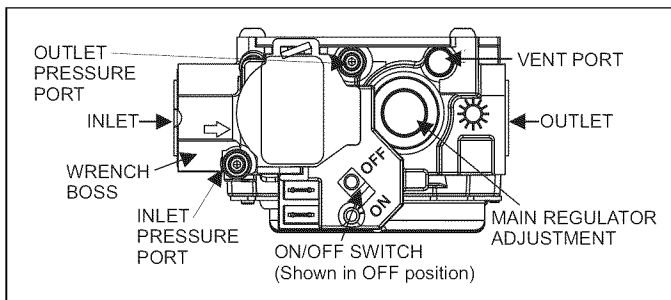

FIGURE 22: Gas Valve
5. Refer to Figure 22 for location of pressure regulator adjustment cap and adjustment screw on main gas valve.